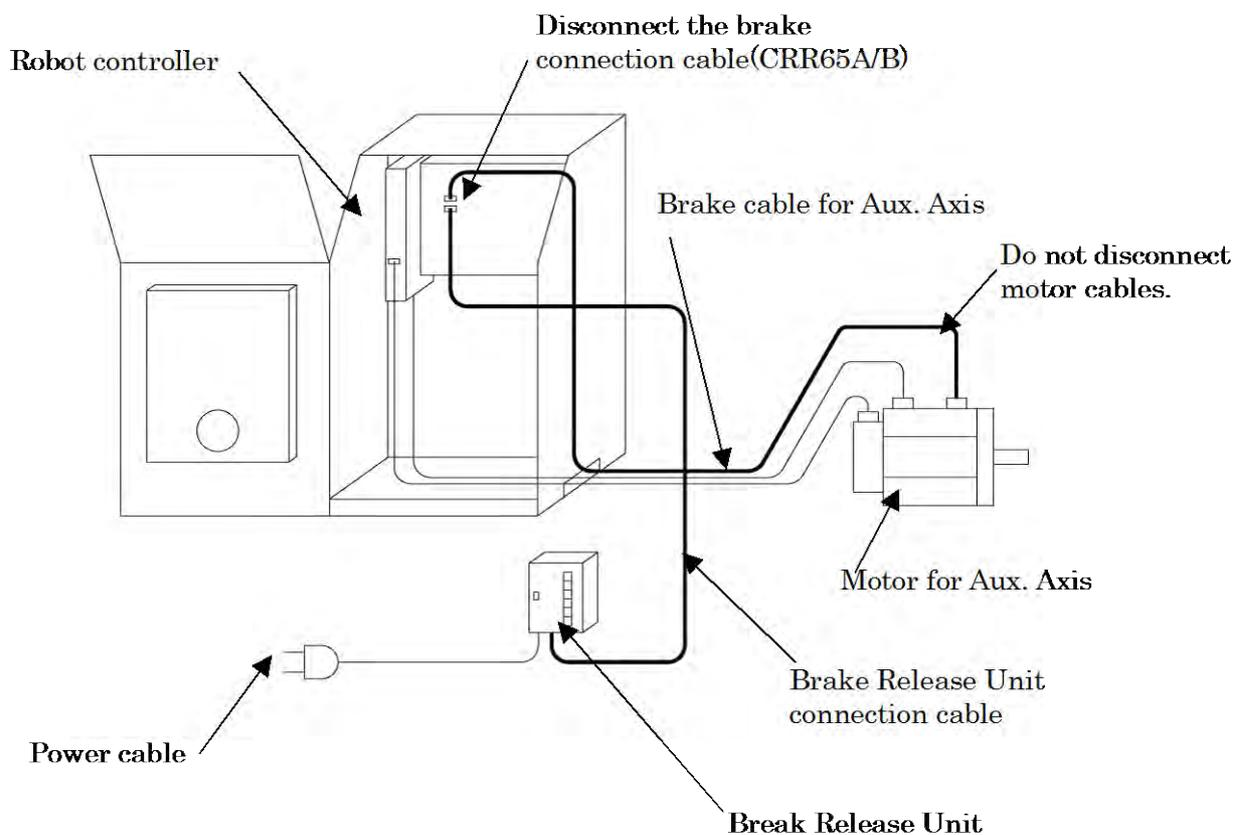

Fig.E.3.2 How to connect Brake Release Unit (In case of operating to the Aux. Axis)
- Refer to Fig.E.3.2 for the auxiliary axis.